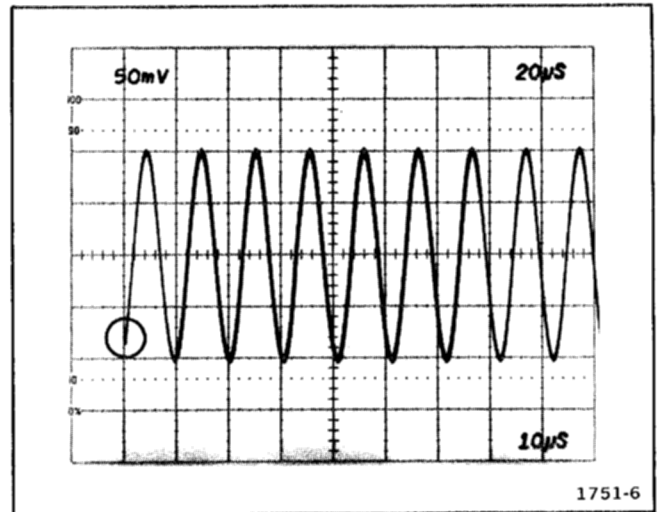

Fig. 5-6. Trigger Sensitivity. (Circle denotes correct trigger point).
Adjust—Trig Sens, R175, so the main sweep untriggers between 0.3 and 0.1 division from bottom of waveform as MAIN TRIGGERING LEVEL control is rotated through negative (–) portion of its range. See Fig. 5-6 for reference.
- a. Adjust—Trig Sens, R320, for a sweep trigger point at approximately 0.3 division from bottom of waveform as Delayed Triggering LEVEL control is rotated through negative (—) portion of its range. See Fig. 5-6 for reference.